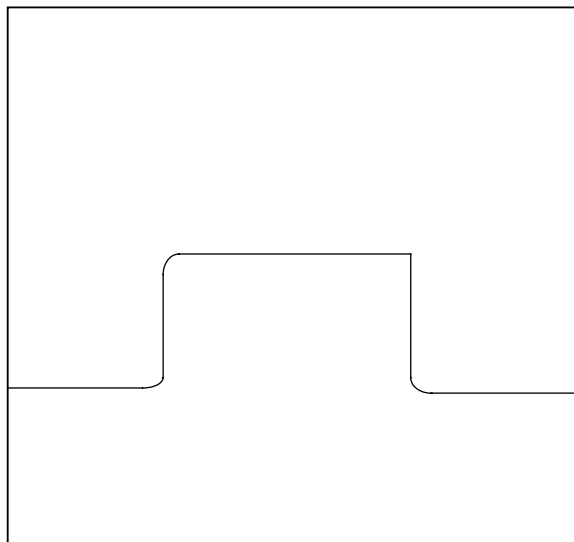

Figure 5-3. Porch
8. Adjust the oscilloscope vertical offset so that the porch level is centered in the display screen. See Figure 5-3.
9. Adjust R175 so that a porch-waveform can be observed (refer to Figure 5-3).